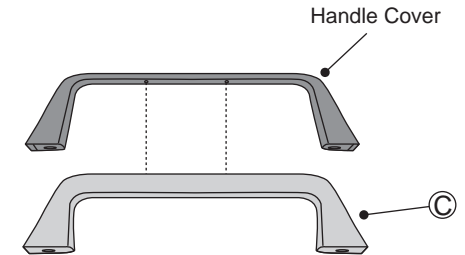
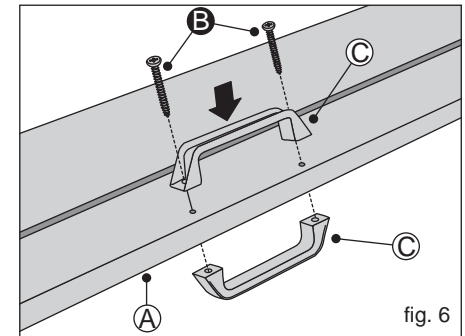
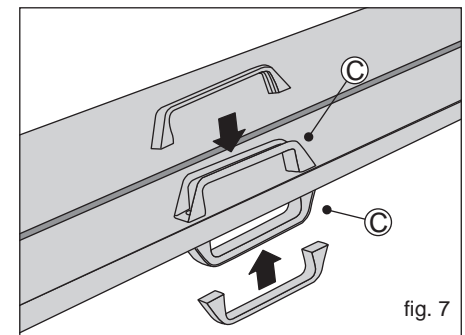

fig. 5
fig. 6
fig. 7
1. Separate the Handle Cover from Handle (C).
**See fig. 5.**
2. Use Screws (B) to fix the Handles (C) onto the Folding Door (A).
**See fig. 6.**
3. Refit the Handle Cover onto the Handle (C).
**See fig. 7.**